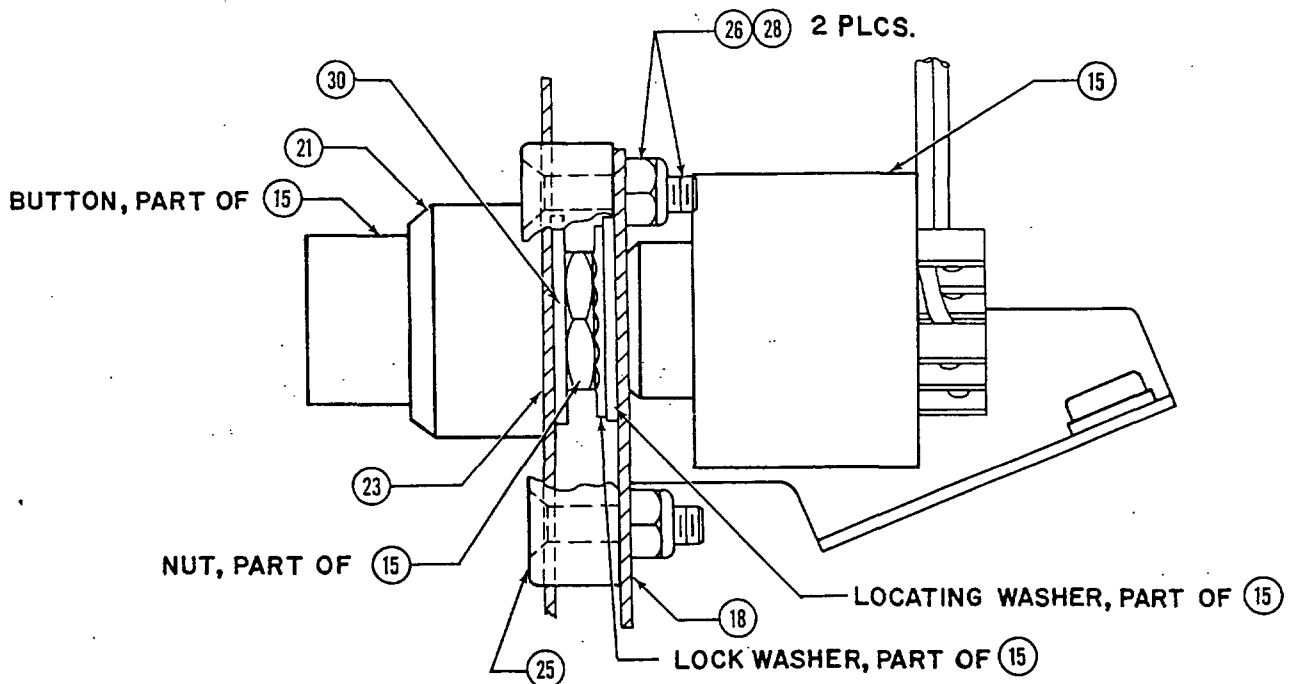

FIGURE 4-D AP DISCONNECT SWITCH INSTALLATION
- H. Apply the A/P Disc decal (057-3362-00) (Item 20) and MIC decal (057-2869-00) (Item 19) to the switch cap as shown in Figure 4-C.